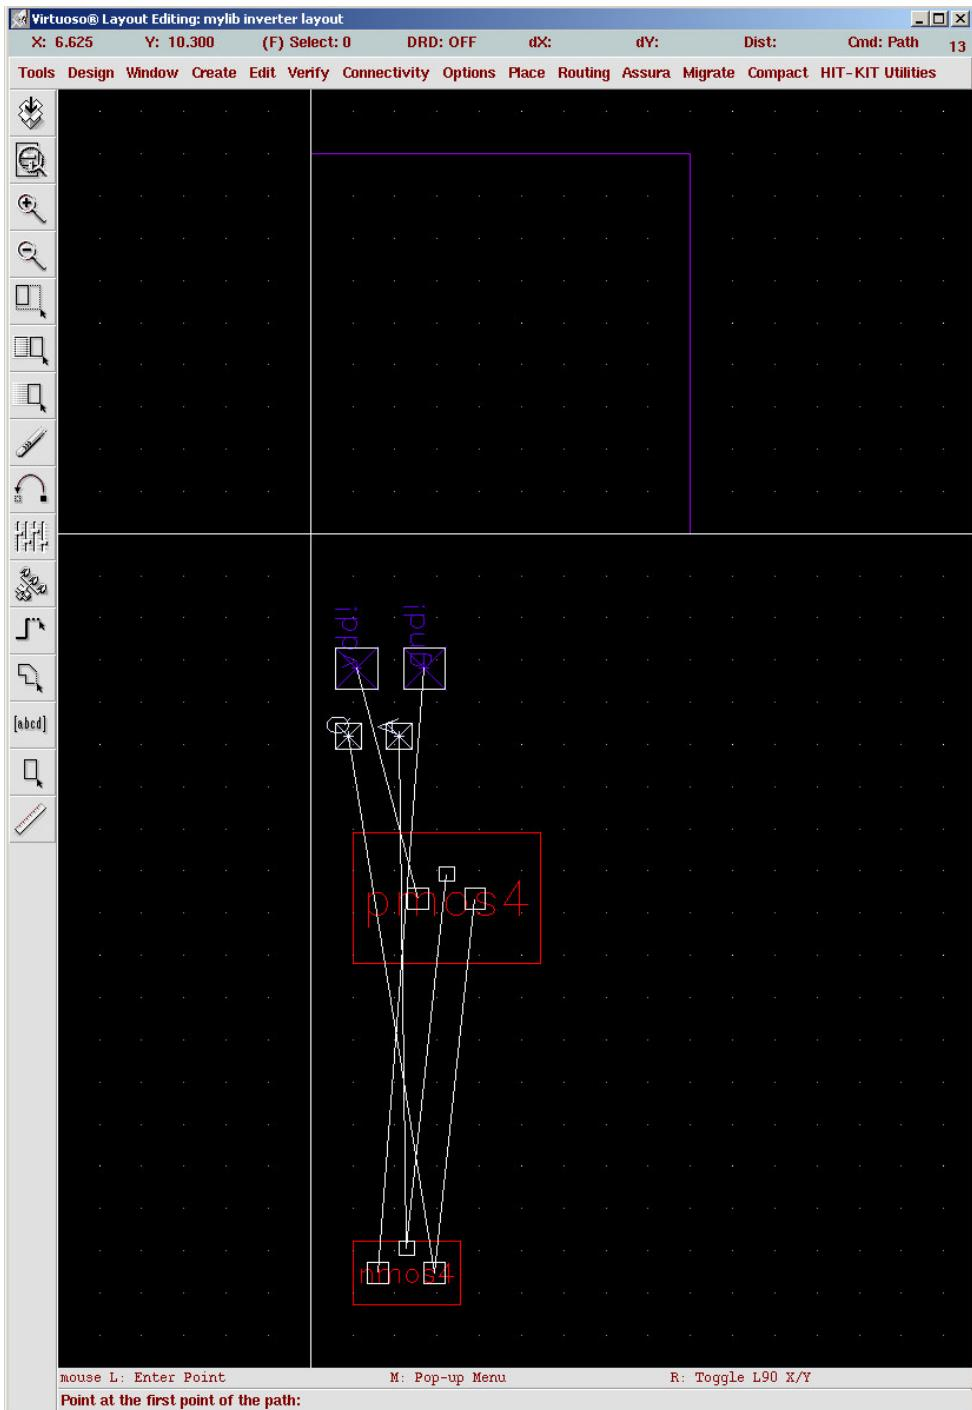

Figure 22. Initial Virtuoso XL View
13. Back in the **Layout Generation Options** window, click **OK**. Your **Virtuoso Layout Editor** window should look like that in Figure 22.
Looking at Figure 22, notice that all the basic components are there to build an inverter. We must now place the components correctly and add make the connections. The purple box is an estimated bounding box. The white lines are “airwires” that represent connections to be made that not been physically connected yet.